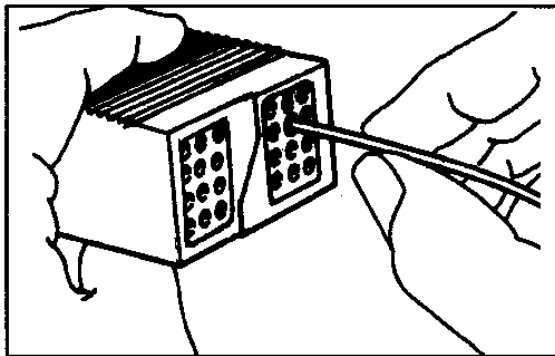

Figure 41 Push Contact Straight into Connector Grommet
2. Hold connector with rear grommet facing you and push contact straight into connector grommet (Figure 41) until a positive stop is felt. A slight tug (10 lbs.) will confirm that it is properly locked in place.